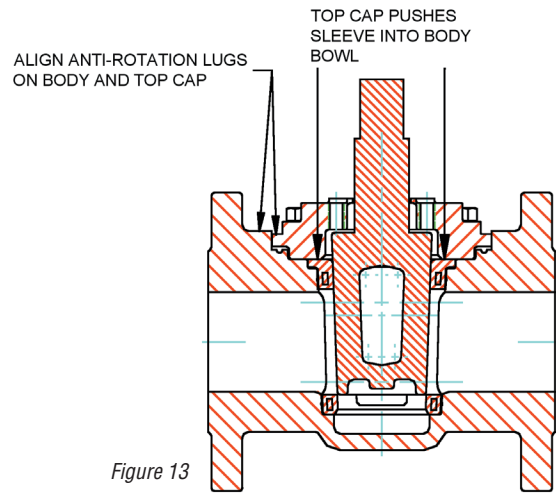

Figure 13
5. Position the top cap (Part 9) over the plug with the anti-rotation lugs aligned with the body lugs, making sure the top cap is free to move downward (Figure 13). Using all top cap fasteners (Part 10), tighten evenly in a cross-cross method until the top cap bottoms on the body counterbore.